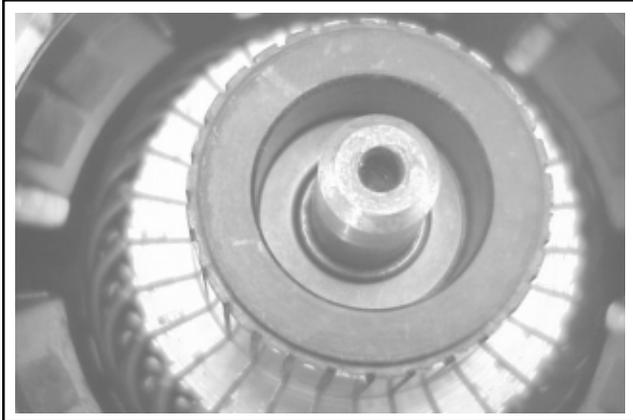

**Figure 8-61. Installing Frame and Drain Tube.**
8. Install the frame, with the small notch forward, onto the armature and drive end cap. Align the notch with the corresponding section in the rubber grommet. Install the drain tube in the rear cutout, if it was removed previously. See Figure 8-61.